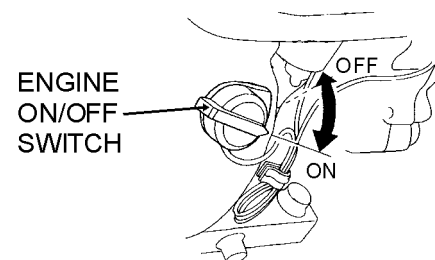

Figure 25. Engine ON/Off Switch (engine)
3. Turn the **engine ON/OFF switch** (Figure 25) to the "**OFF**" position.